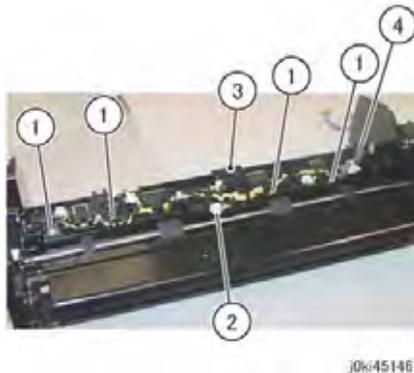

Figure 1 Sensor Bracket Removal
11. Remove the Sensor Bracket. (Figure 1)